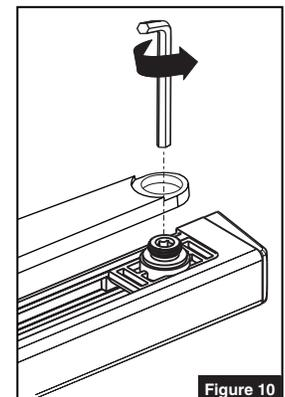

Figure 10
2. Secure main arm to track slider using 5mm hex wrench. Turn wrench counterclockwise to tighten. (Figure 10)